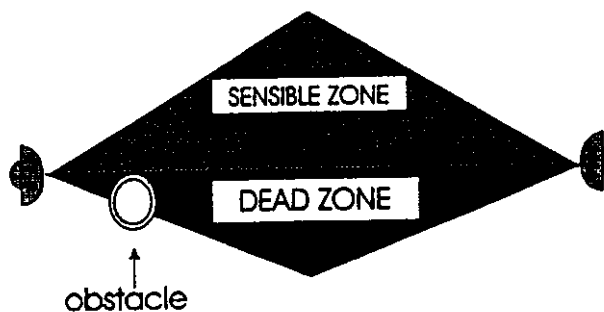

Figure 4 - Sensitive zone in the presence of an obstacle
- **The nature of the obstacles, eventually present, provokes either a reflection or an absorption, or a combination of both these phenomena in confrontation with the electromagnetic energy contained. Therefore, different alterations of the protection field occur depending on the nature of the obstacles. (FIG. 4)**